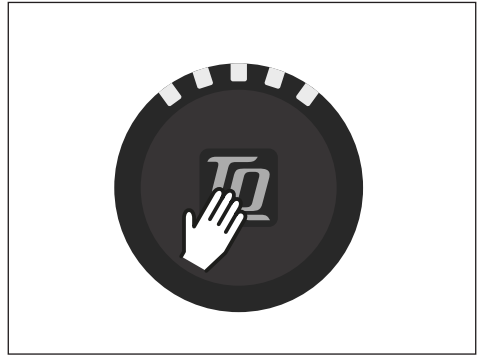

Fig. 3: Button on Display
- ▶ Switch on the drive unit by **shortly** pressing the button (see Fig. 3) on the Display.
- ▶ Switch off the drive unit by **long** pressing the button on the Display (see Fig. 3).